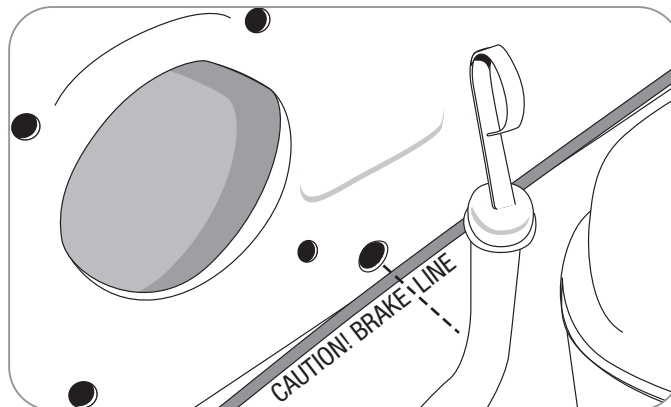

FIGURE 19
**CAUTION: On the engine side of the firewall there is a brake line. Be careful not to drill through the brake line.** It may be necessary to carefully push this line out of the way, securing it a bit lower is usually all that is necessary (see figure 19)